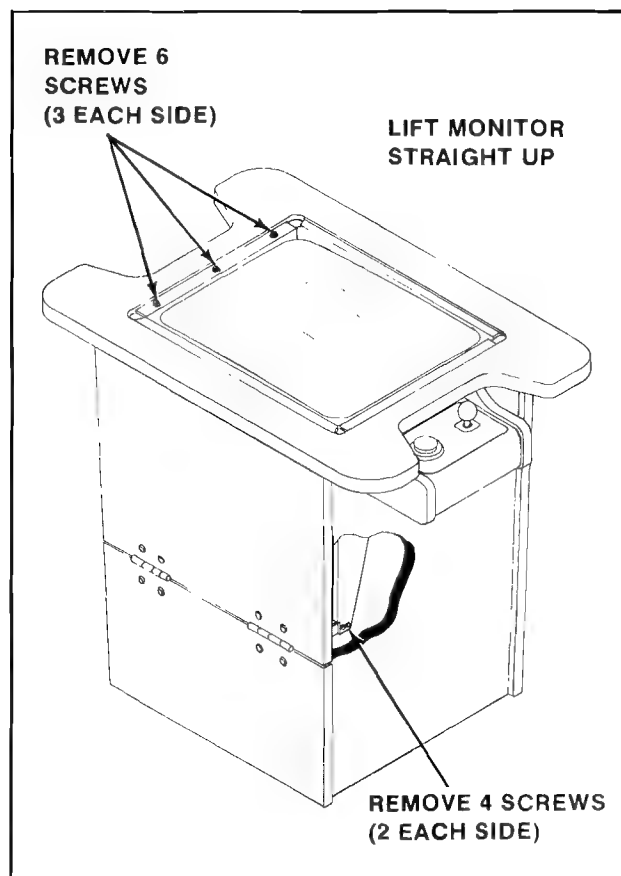

Figure 3-11 Removing the Monitor — Cocktail
3. COCKTAIL TABLE MODEL: See Figure 3-11.
- ☐ Remove the screws holding the T.V. monitor chassis to the "L" brackets by the door hinge(s). See Figure 3-11.
- ☐ Remove the screws which secure the T.V. monitor mounting brackets to the edges of the slot cut in the table top. See Figure 3-11.